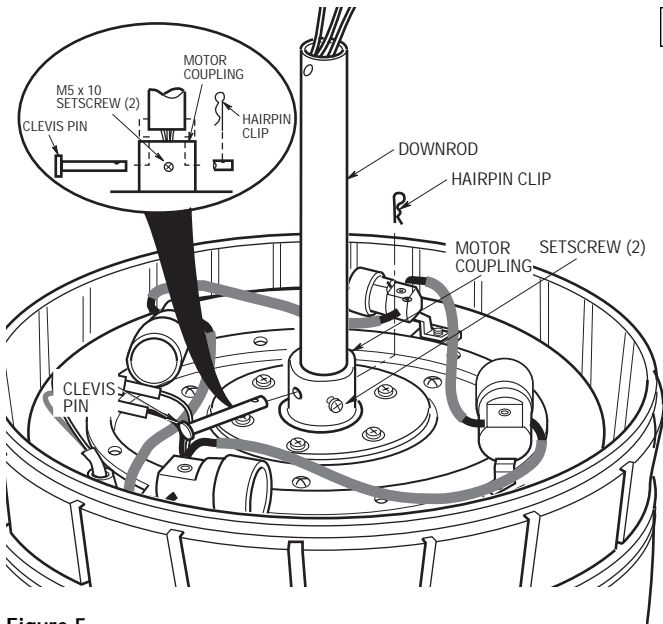

Figure 5
5. Loosen the setscrew(s) in the motor coupling. Separate, untwist and unkink the three 80" motor leads. Route the motor lead wires through the downrod. Align the clevis pin holes in the downrod with the holes in the motor coupling. Install the clevis pin and secure with the hairpin clip (Figure 5). The clevis pin must go through the holes in the motor coupling and the holes in the downrod. Be sure to push the straight leg of the hairpin clip through the hole near the end of the clevis pin until the curved portion of the hairpin clip snaps around the clevis pin. The hairpin clip must be properly installed to prevent the clevis pin from working loose. Pull on the downrod to make sure the clevis pin is properly installed.
It is critical that the clevis pin in the motor coupling is properly installed and the setscrew securely tightened. Failure to verify that the pin and setscrew are properly installed (as shown in Figure 5) could result in the fan falling.
6. While pulling up on the downrod, securely tighten the two setscrews in the motor coupling (Figure 5).